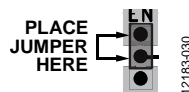

Figure 2. Enabled Jumper Position
- Use a jumper to connect the top two pins of the EN test bus. This jumper connects EN to VIN and enables the ADP1972 (see Figure 2).